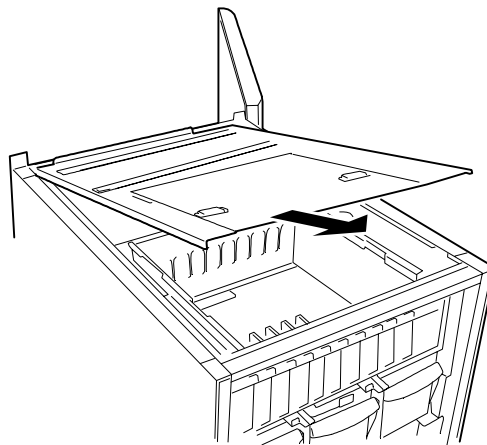

Figure 4-7. Removing the BSU Top Cover
4. Remove the top cover by lifting the rear end of the cover and pulling it out. See Figure 4-7.